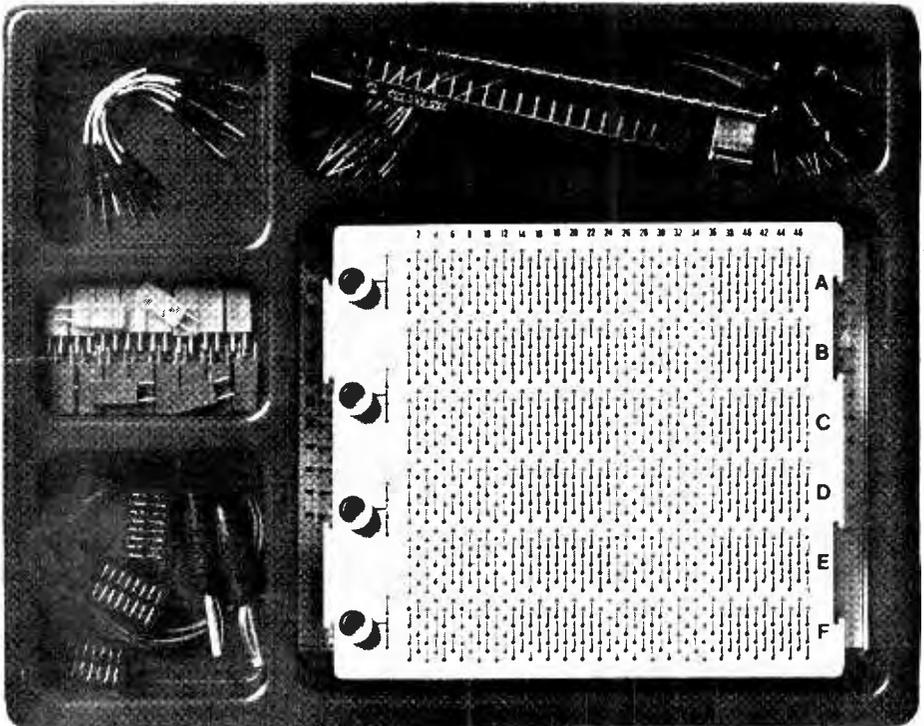

Fig. 7
**The Hirschmann Experimental Plate** in Fig.7 follows the layout in Fig. 1(c). The board will directly accept most discrete components with lead diameters up to 1.2mm and, via special adaptors, 0.3in i.c.s. Interconnection of components is by special patch leads which are supplied in a kit. The plate has 1,128 connection points organised in six columns each with 47 rows of 4 interconnected sockets. The board is supplied with two plug strips which are used as power supply buses, and connect either 23 or 24 rows of sockets together.